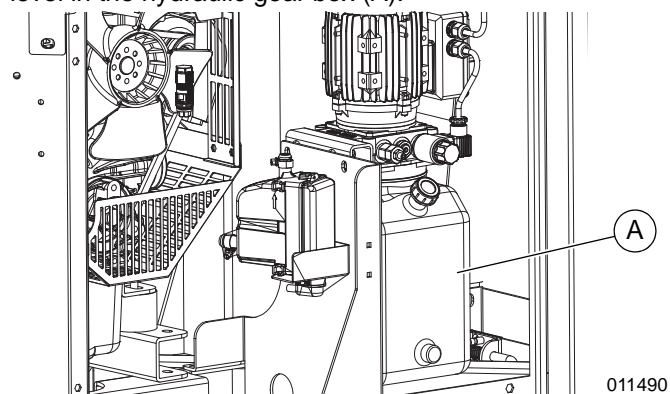

Figure 4-1. Hydraulic Gear Box
See Figure 4-1. Before each use, check the hydraulic fluid level in the hydraulic gear box (A).